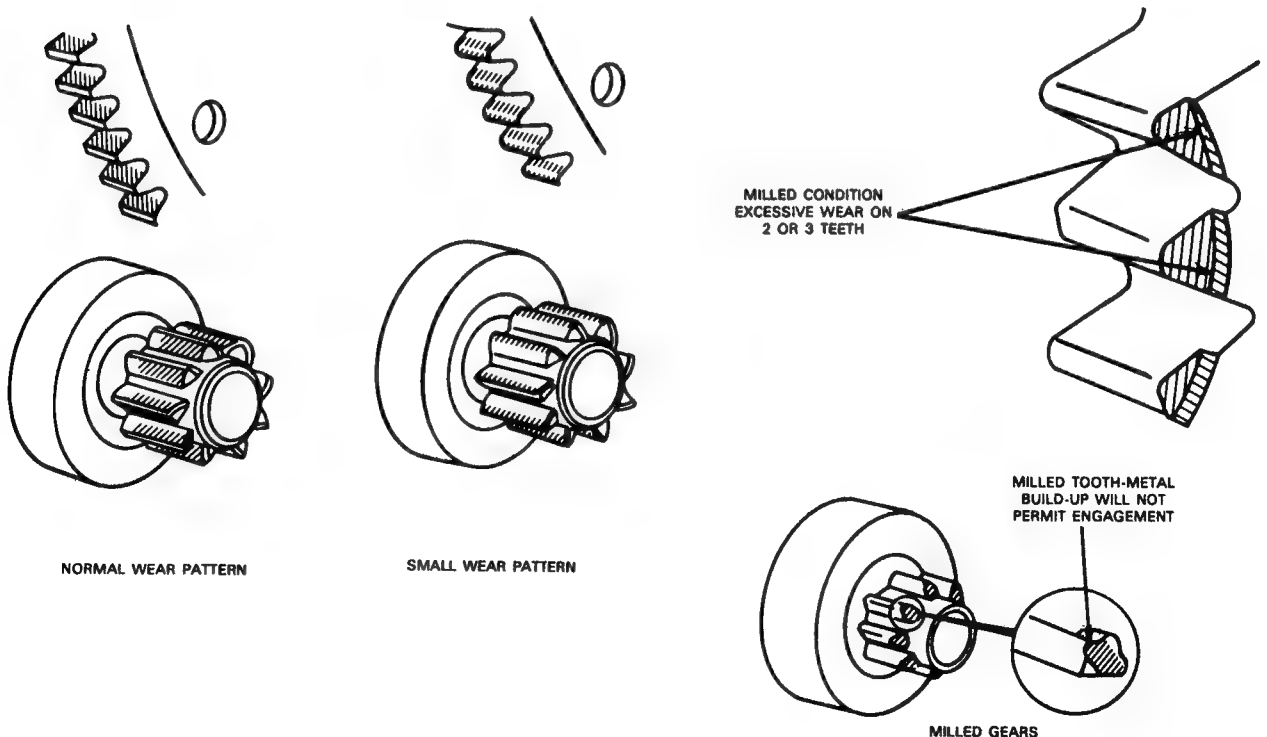

**FIG. 10 Commutator Runout Check**
4. Check the commutator for run out (Fig. 10). Inspect the armature shaft and the two bearings for scoring and excessive wear. If the commutator is rough, or more than 0.005 inch out-of-round, turn it.